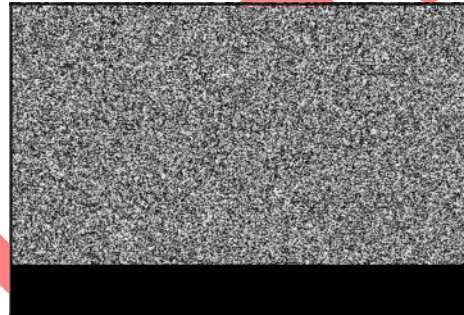

Figure 6
6. Install camshaft, making sure tappets clear cam lobes. Timing marks (A, Figures 6, 7, 8) must align.
7. On horizontal crankshaft engines, make sure the paddle on the governor shaft (B, Figure 6) is rotated in line with the governor cup inside the crankcase cover.